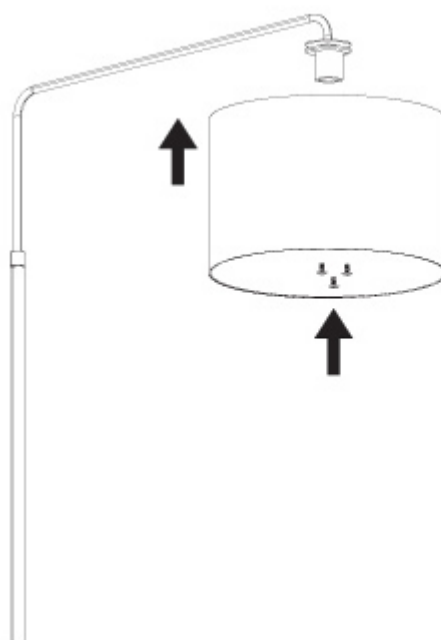

Figure 2
2. Stand the lamp upright before sliding the inner ring of the lamp shade up over the lamp socket. Then use the shade assembly screws to fasten the lamp shade in place. (Figure 2) Position the shade seam in your desired location before fully tightening the screws.